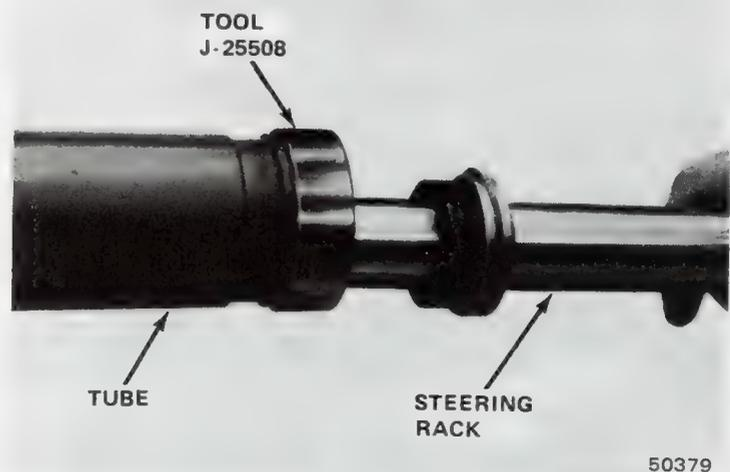

Fig. 2K-85 Steering Rack Installation
(11) Place support washer on top of pinion shaft seal (fig. 2K-87).